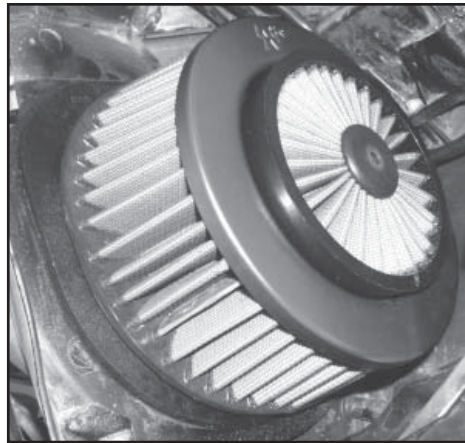

Fig. 2
5. Install the XStream Top into the base of the K&N Air Filter. (Fig. 2)